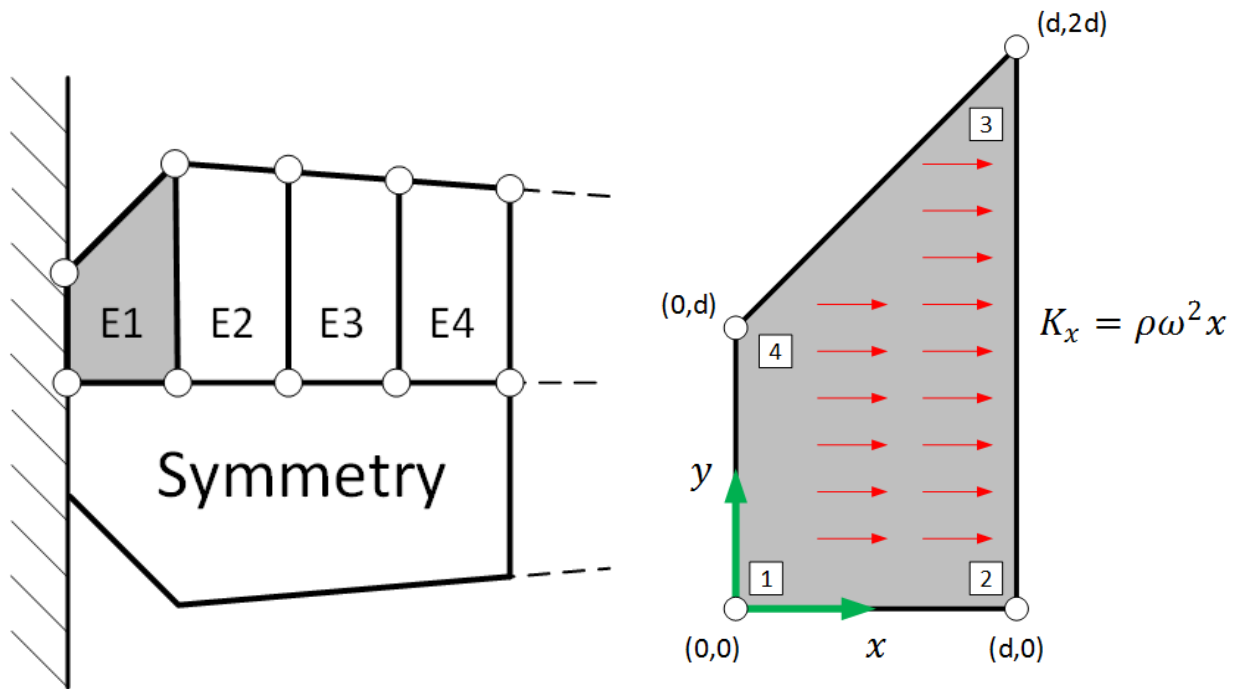

Figure 2: To the left: the FE-model of the turbine blade. To the right: The studied element with nodal positions.
**Problem 2. [5 points]** Now, a much more refined model of the rotating blade is studied with particular focus on the mounting points of the blades. The model is made of 2D iso-parametric first order elements and due to symmetry conditions, only one half of the blade needs to be explicitly modeled. The relevant part of the model is sketched to the left in Figure 2. Hint: Think of which matrix elements etc. that you really need. Assume standard numbering of the degrees of freedom throughout the task, i.e that  $d_1$  and  $d_2$  are the displacement of Node 1 in the horizontal and vertical direction respectively.
(a) Compute the components that the element E1, sketched to the right in Figure 2, contributes to the reduced load vector due to the centrifugal force  $K_x = \rho\omega^2x$ . The integration should be done using Gauss-integration and choose the number of evaluation points so that you obtain the exact answer.